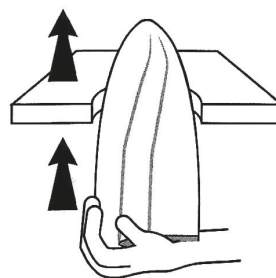

Fig. 3
- Insert the cover inside the hole (Fig. 3).